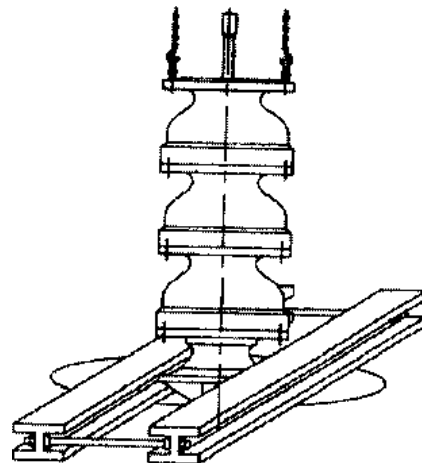

Figure 7
2. Place two I-beam supports across the base plate opening, strong enough to safely support the weight of the entire pump assembly. These I-beams should be connected by threaded rods and nuts so as to clamp them firmly together to support the pump. (See Figure 7).
6. Attach sling to elevator clamps or eye bolts and hoist into position over foundation opening (See Figure 7).